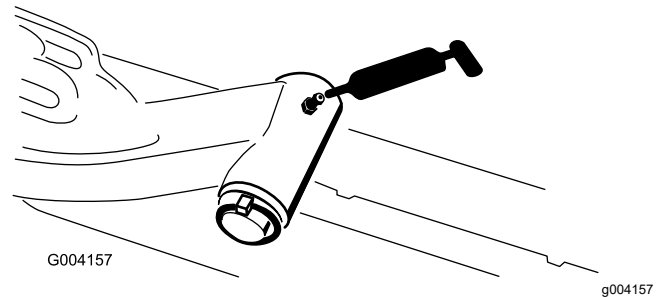

Figure 42
- Lift-arm pivot shaft (1 each)—Figure 42